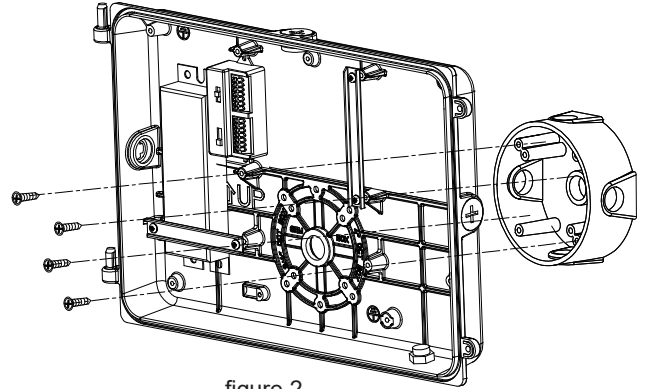

figure 2
**Step 2** Attach the rear housing to the wall. (figure 2)